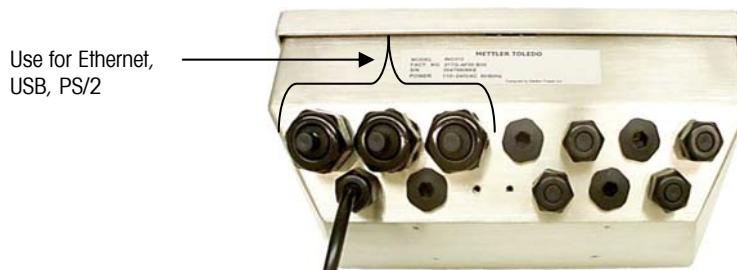

Figure 2-3: IND310drive Cable Glands
- Pass the cables through an appropriately sized cable grip before connecting the wires. For example, the Ethernet cable goes through the large cable gland (see Figure 2-3).